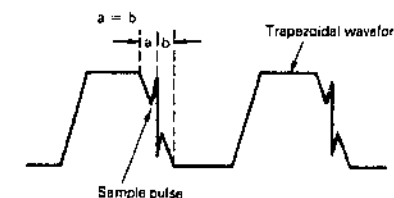

Fig. 47
- 2) Open-circuit PG509-① and PG509-② and confirm that the sample pulse falls approximately on the center of the trapezoid's trailing edge. (Fig. 47)